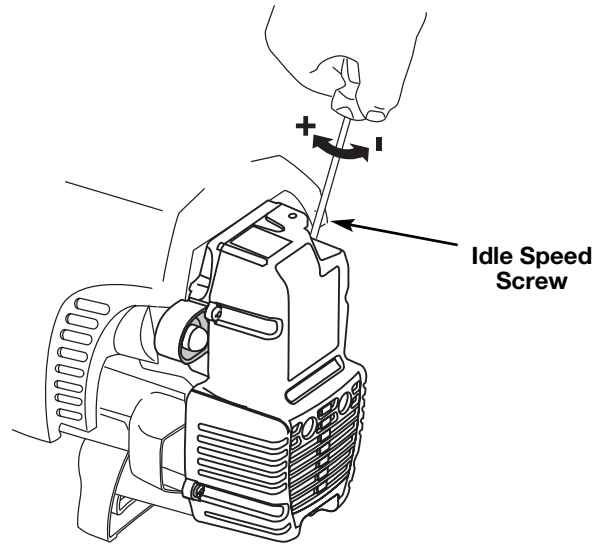

Fig. 22
The idle speed of the engine is adjustable through the air filter/muffler cover (Fig. 22).
2. Move the throttle control to the idle position and let the engine idle. If the engine stops, insert a small phillips or flat blade screwdriver into the hole in the air filter/muffler cover (Fig. 22). Turn the idle speed screw in, **clockwise**, 1/8 of a turn at a time (as needed) until the engine idles smoothly.